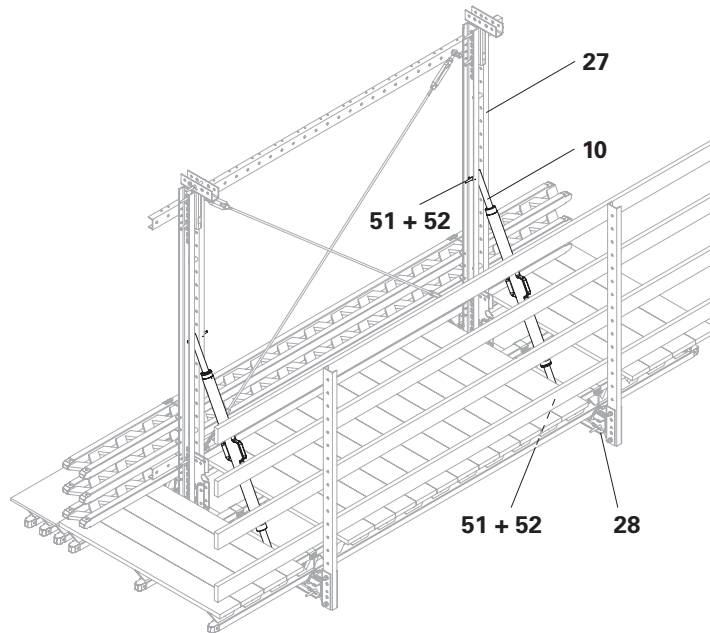
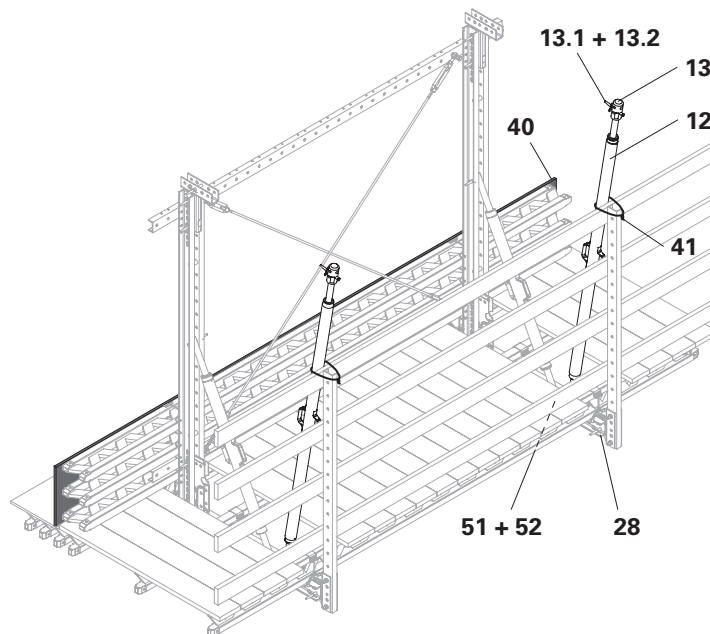

Fig. B4.15
Fig. B4.16
⇒ Only release the side formwork from the crane when the heavy-duty spindles (10) have been fitted (Fig. B4.15).
4. Bolt the Heavy-Duty Spindles SLS (10) to the Steel Walers Universal SRU (27+28) of the slab formwork and side formwork with fitting pins $\text{Ø } 21 \times 120$ (51) and secure with cotter pins 4/1 (52). The Heavy-Duty Spindles SLS (10) serve as temporary support.
5. Remove the crane lifting gear. (Fig. B4.15 + B4.17)
6. Connect the Heavy-Duty Spindles SLS (12) to the Steel Walers Universal SRU (28) of the slab formwork with fitting pins $\text{Ø } 21 \times 120$ (51) and secure with cotter pins 4/1 (52).
7. Bind the Heavy-Duty Spindles SLS (12) tightly to the guardrails using binding wire (41) and secure them to prevent them from toppling over.
8. Fit Spindle Adapters SLS/RCS (13) onto the thread of the Heavy-Duty Spindles SLS (12). Connect them with fitting pins $\text{Ø } 21 \times 120$ (13.1) and secure with cotter pins 4/1 (13.2).
9. Fasten the formlining (40) to the Formwork Girders GT 24 of the side formwork with wood screws or wire nails. (Fig. B4.16 + B4.17)